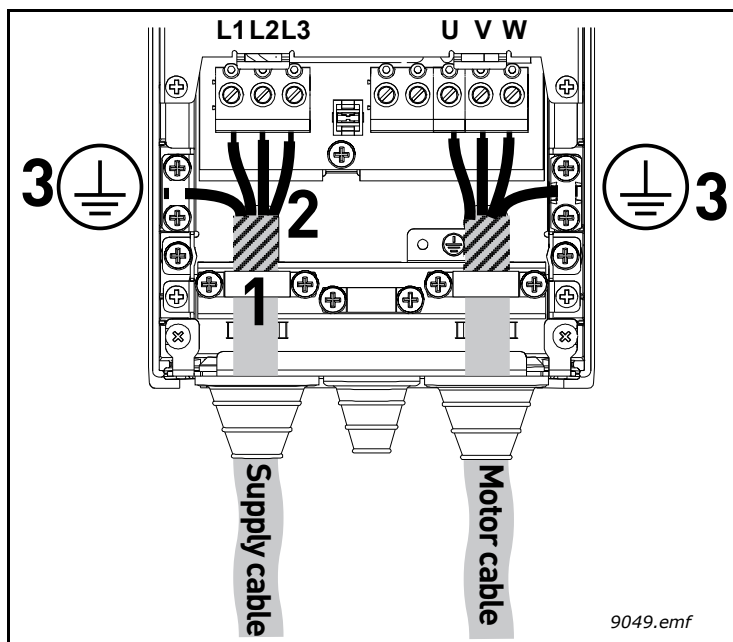

Figure 29.
- Connect the stripped cables (see Figure 22 and Table 19) as shown in Figure 29.
- Expose the shield of all three cables in order to make a 360-degree connection with the cable clamp (1).
- Connect the (phase) conductors of the supply and motor cables into their respective terminals (2).
- Form the rest of the cable shield of all three cables into “pigtails” and make a grounding connection with a clamp as shown in Figure 29 (3). Make the pigtails **just long enough** to reach and be fixed to the terminal - not longer.